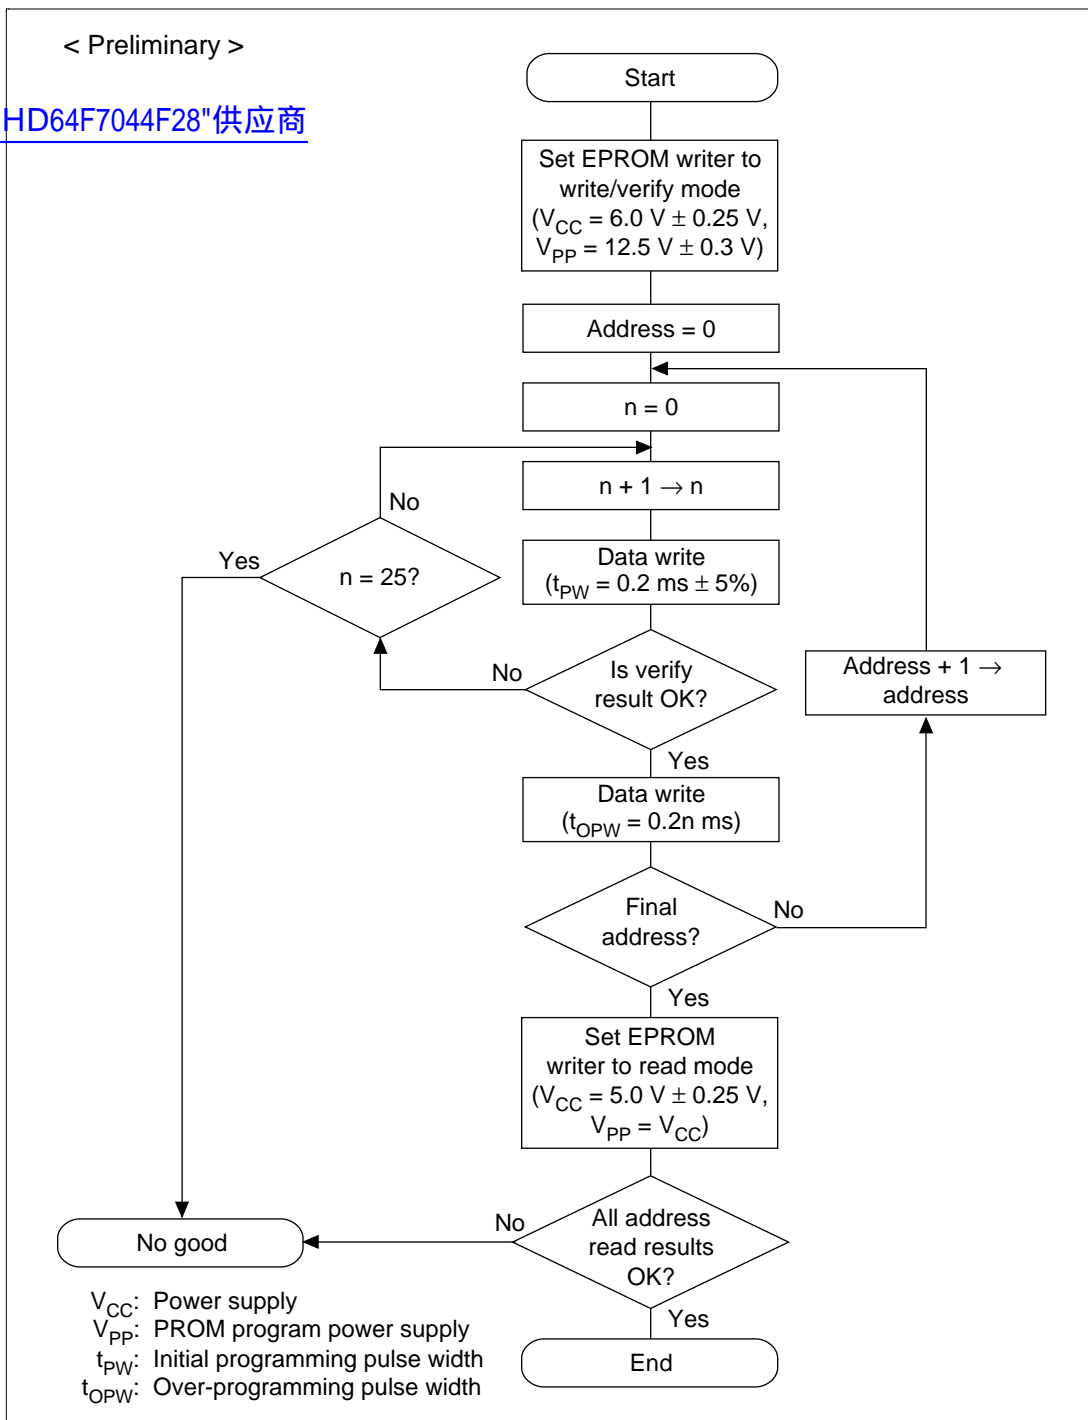

Figure 21.6 High-Speed, High-Reliability Programming Basic Flow
查询"HD64F704F28"供应商 Write/Verify Writing and verification can be done using an efficient high speed, high reliability programming format. This format allows data writing that is both fast and reliable without applying voltage stress to the device. Figure 21.6 shows the basic flow of the high speed, high reliability programming format.
*3 t_{OPW} is defined by the values noted in the flowchart (figure 21.6).